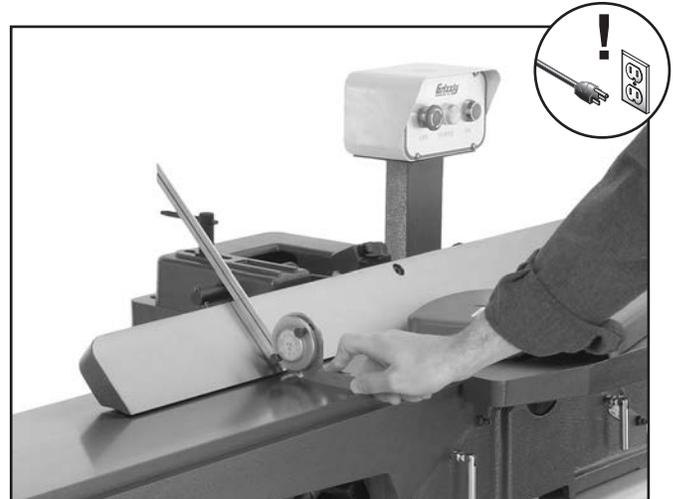

Figure 55. Example of adjusting fence 45° outward.
2. Use a sliding bevel adjusted to 135° to adjust fence to 135° (45° outward) position, as shown in **Figure 55**.